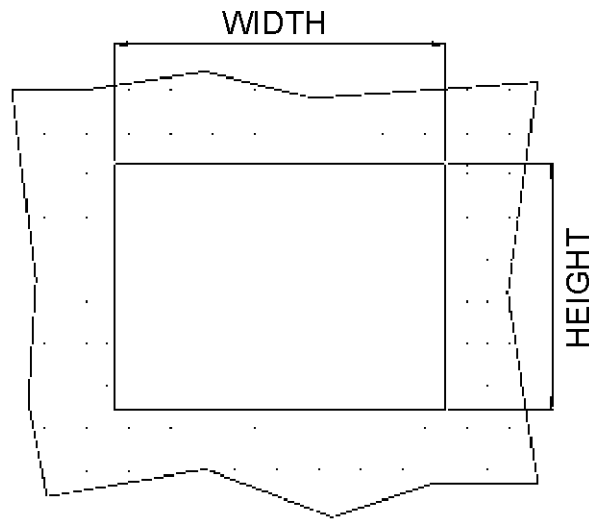

Figure 5-5: Panel Opening
- Step 2:** Cut out a section of the panel that corresponds to the rear panel dimensions of the monitor. Take care that the panel section that is cut out is smaller than the overall size of the metal frame that surrounds the monitor but just large enough for the rear panel of the monitor to fit through (**Figure 5-5**).